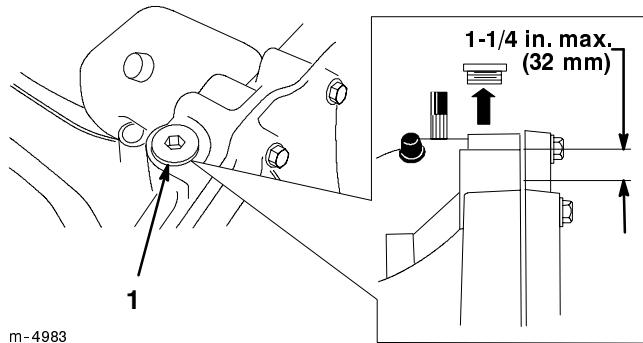

Figure 32
2. Clean around the fill plug (Fig. 32) so dirt cannot fall into the reservoir if fluid needs to be added.
3. Remove the fill plug and check the fluid level. The level should be a maximum of 1-1/4 in. (32 mm) below the top of the fill port (Fig. 32). Add oil if necessary.